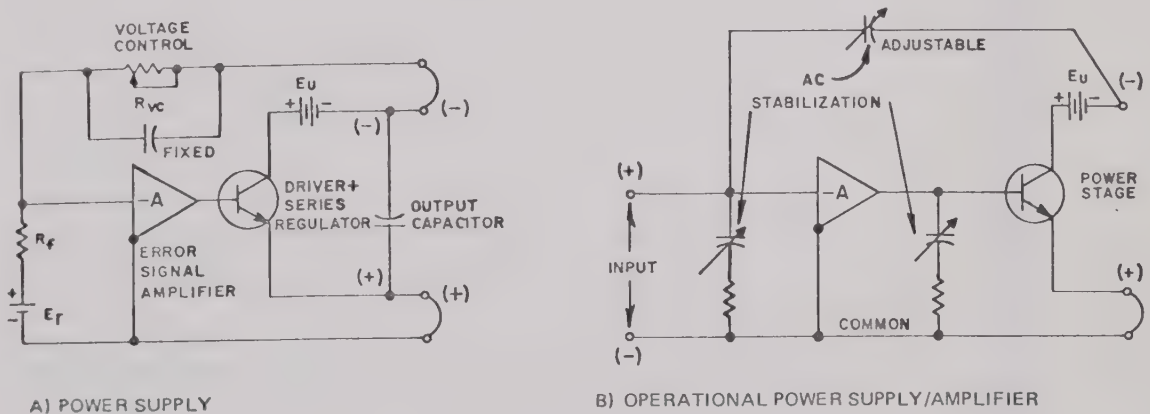
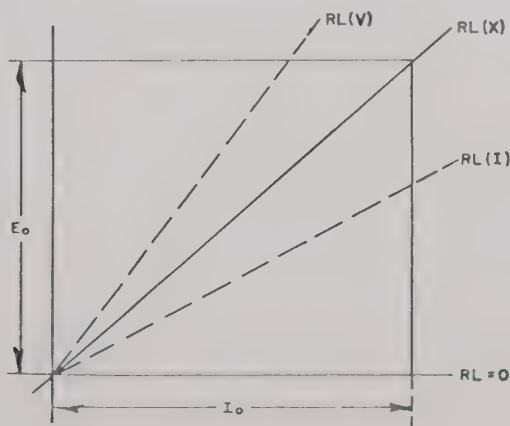

FIG. 4-1 COMPARISON STANDARD POWER SUPPLY WITH AN OPERATIONAL POWER SUPPLY.
FIG. 4-7 "CROSSOVER" CHARACTERISTICS, OPS GROUPS IV, V.
- 4-8 D-C OFFSET VARIATIONS. Any power supply, "standard" or "operational," consists of a comparison amplifier, a reference source and a power amplifier or series regulator section. (Refer to FIG. 4-1.) The effects of various external influences, such as time, temperature, load or a-c source variations upon the d-c output of any power supply are due to small variations at the input of the comparison amplifier. These small errors or "offset variations" are transferred to the output, amplified by a factor which depends on the gain (ratio of reference voltage to output voltage) and the value of the feedback resistor (voltage control resistor) at any given output level. Since a "standard" power supply has only a limited range of gain and feedback resistance,
4-9 As seen from FIG. 4-1, an operational power supply can be represented as an amplifier, driving a power stage in series with the raw d-c source. It can, therefore, be analyzed using operational amplifier terminology. The circuit shown in FIG. 4-1 is further simplified by including the power stage and the raw d-c source into the amplifier triangle. Adding an input source (E_i) with a series resistor (R_i) and a feedback resistor (R_f), a model of an "ideal" operational amplifier (inverting configuration) results, for which the following assumptions are made:
- 4.27 If the OPS is used with the internally provided d-c reference source and with all internal feedback and reference resistors connected as shown in FIG. 4-1, it functions as a d-c source delivering stabilized output voltage or current to the load. The operating mode ("voltage" or "current") is determined by the load resistance and by the setting of the VOLTAGE CONTROL (R_{VC}) and the OUTPUT CURRENT CONTROL (R_{CC}). If, in FIG. 4-7, " E_o " (voltage) and " I_o " (current) represent the respective settings of the output controls, the "crossover" resistance (R_{LX}) is given by Ohm's Law:
- 4.28 Any load resistance, *smaller* than R_{LX} (as, for example, R_{LI} in FIG. 4-7) will transfer the OPS into the "Current Mode." With any load resistance *larger* than R_{LX} (as, for example, R_{LV} in FIG. 4-7), the OPS will operate in the "Voltage Mode."
- 4.29 Connected as a d-c source (as shown in FIG. 4-1), the OPS output voltage and current are constantly monitored and compared to the internal temperature-compensated REFERENCE SOURCES (E_r , I_{ref}). The VOLTAGE-MODE and CURRENT-MODE AMPLIFIERS (A3, A4) operate as "Error-Signal Amplifiers," and at balance, the settings of the output controls and the value of the load resistance establish a given operating point on the output characteristic, as described previously. A change in either output control setting, or an external influence on the set output quantities (change in load, variations in a-c source voltage) are interpreted by the OPS sensing circuits as "Error Signals." Depending on the prevailing operating mode of the OPS, the "error signal" is amplified by either the VOLTAGE-MODE or the CURRENT-MODE AMPLIFIER. The amplified error signal is presented to the OR-GATE (D1, D2), which only passes the most negative signal, so that only *one* of the amplifiers can be in control at any one time. Once the amplified error signal is passed by the OR-GATE, it becomes a "control signal" which, amplified by the DRIVER STAGE, is applied to the base of the transistors in the POWER OUTPUT STAGE. The power transistors in this stage change their series impedance in response to the control signal from the DRIVER STAGE. The control signal was derived from the "error signal" and is, therefore, proportional to the original output variation of the OPS. The resulting series impedance change in the POWER OUTPUT STAGE is, therefore, exactly inversely proportional to the original output variation, so that the OPS output is returned to the original value and thereby stabilized.